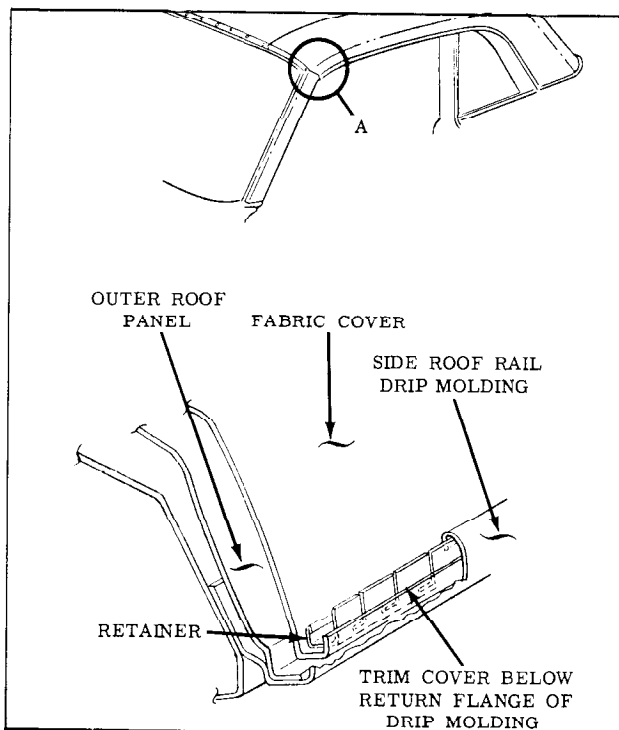

Fig. 15-57 Retainer at Side Rail
4. With a suitable tool, carefully remove flexible retainer securing fabric cover inside right and left drip moldings (View "A", Fig. 15-57).
16. Install flexible retainer inside each drip molding. Make certain that outer edge of retainer is located under flange of drip molding. (View "A", Fig. 15-57)